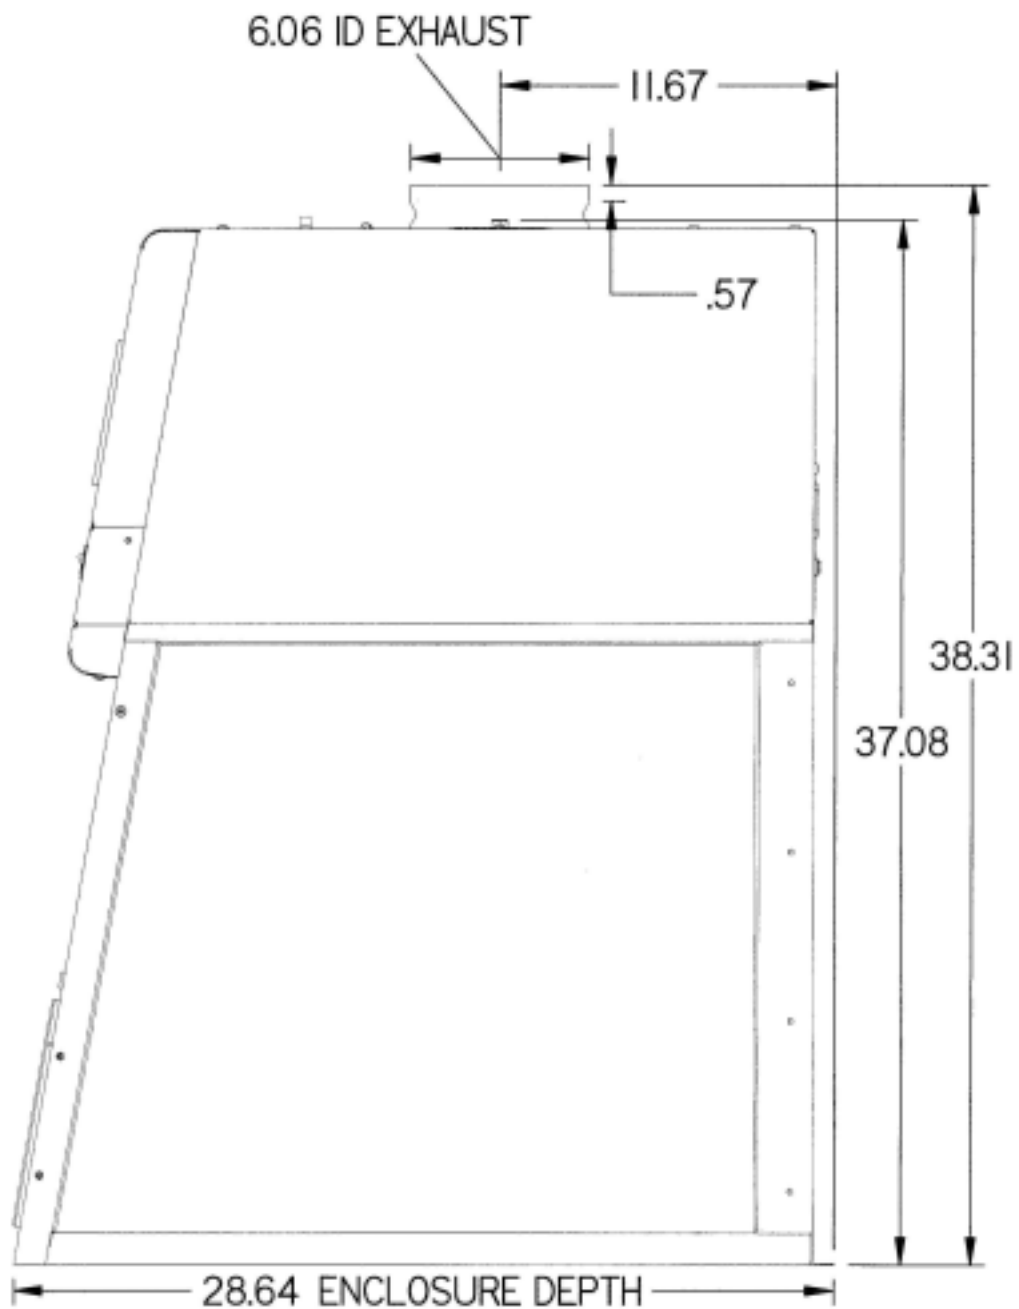
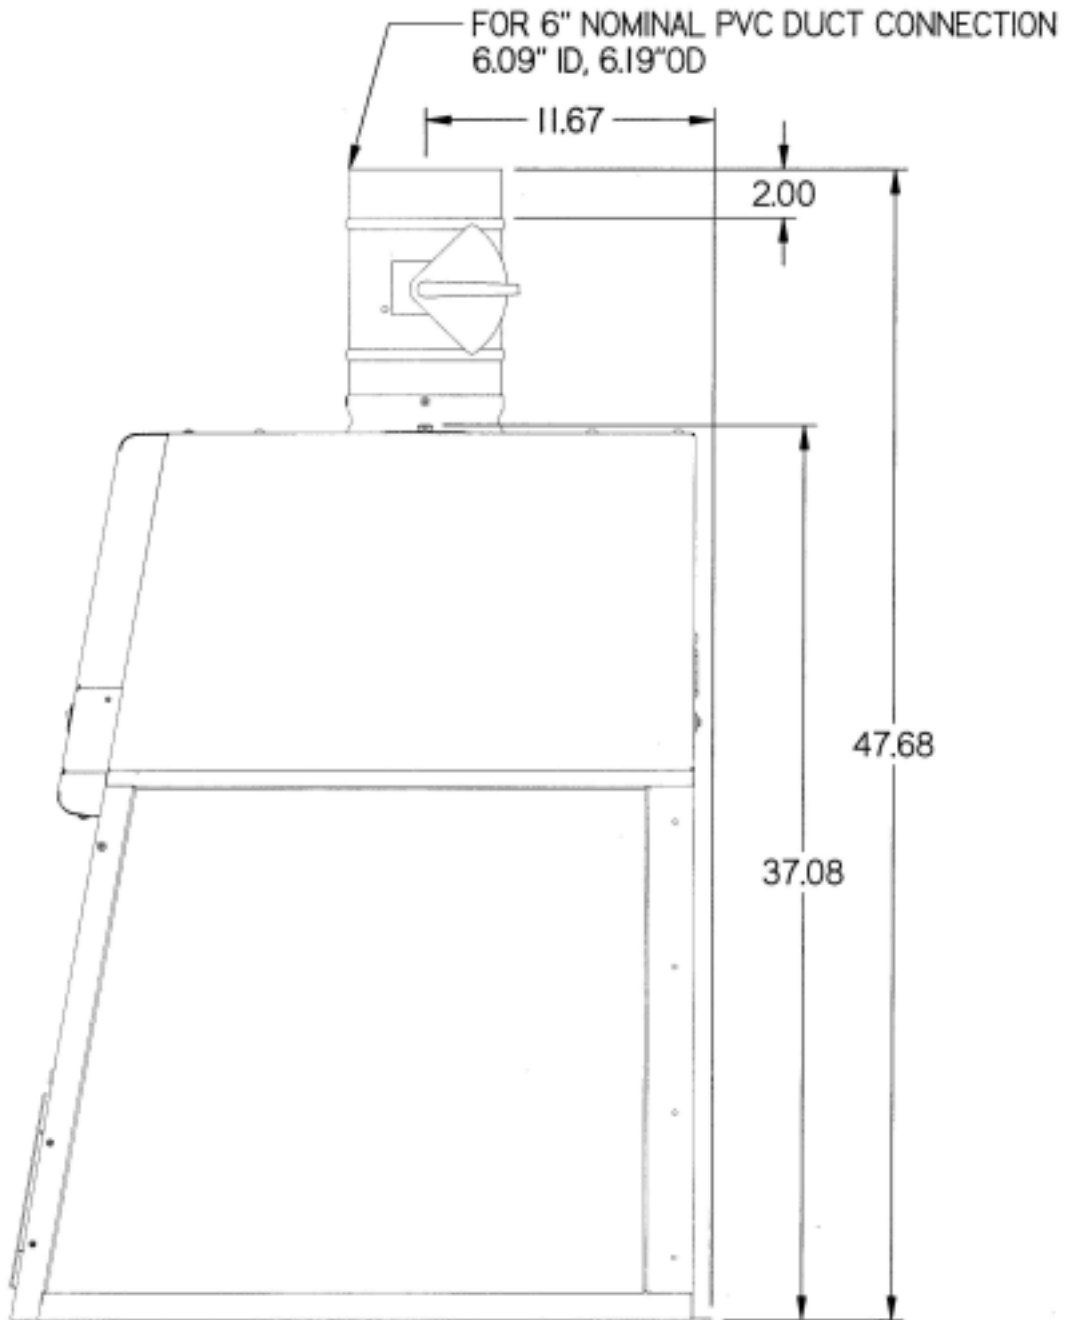

Figure 3-2
Figure 3-3
The exhaust connection on the XPert Filtered Balance Station has been designed to accept 6" diameter ductwork as shown in Figure 3-2. The exhaust connection ships uninstalled on the top and needs to be fastened with the screws provided. See Chapter 7 for ordering exhaust transition kits for the XPert Filtered Balance System. Exhaust transition kits aid in the removal of chemicals or applications where a higher degree of powder and particulate removal is required. Review Chapter 2 for exhaust prerequisites and review Chapter 7 for ordering blower exhaust equipment. See Figure 3-2 for the XPert Station and Figure 3-3 for exhaust kit options for the XPert Filtered Balance System.
23. **XPert Filtered Balance Station Exhaust Collar (Not shown)** provides a 6" diameter transition to a remote blower or house exhaust system. See figure 3-2 in Chapter 3.
25. **Accessory Exhaust Connection Kits** are available to duct integral blower models including the XPert Filtered Balance System to the outside. The exhaust connection allows the operator additional protection from hazardous fumes or vapors and should be used if the carbon filter capacity is not adequate. Each kit includes an epoxy-coated steel exhaust transition adapter with manual adjustable damper designed for 6" diameter PVC duct. See Figure 3-3 in Chapter 3.